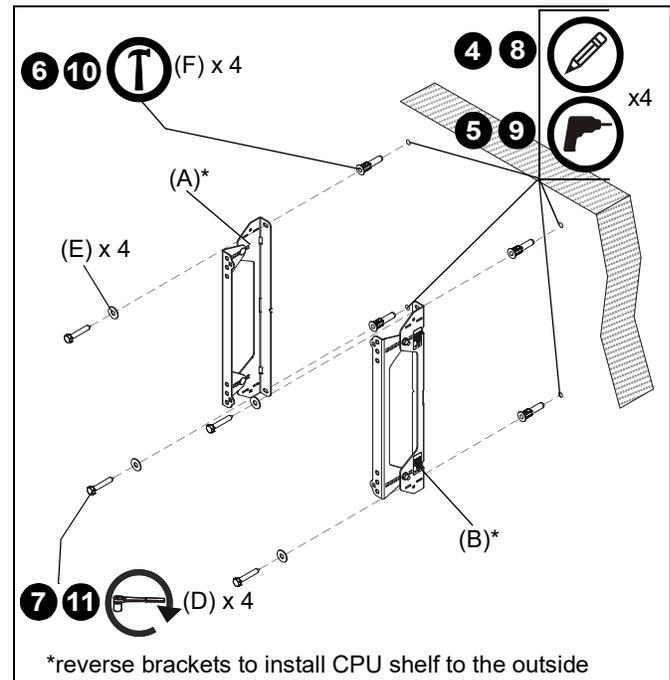

Figure 3
4. Using a level, mark the wall through both upper mounting slots. (See Figure 3)
5. Drill one 3/8" (9.5mm) pilot hole with a depth of 3 1/2" (88.9mm) at each marking. (See Figure 3)
6. Install a UX10 anchor (F) into each pilot hole using a hammer, making sure that the anchor is flush with the wall. (See Figure 3)
NOTE: If desired CPU location is off to the side of the display, reverse brackets (A and B) from how they are shown in Figure 3.
7. Use two 5/16 x 2-1/2" lag bolts (D) and two 5/16" flat washers (E) to attach top of brackets (A and B) to anchors in wall. (See Figure 3)
8. Mark the attachment points for the lower mounting slots. (See Figure 3)
9. Drill one 3/8" (9.5mm) pilot hole with a depth of 3 1/2" (88.9mm) for each mounting hole. (See Figure 3)
10. Install a UX10 anchor (F) into each pilot hole using a hammer.
11. Use two 5/16 x 2-1/2" lag bolts (D) and two 5/16" flat washers (E) to attach the brackets to the wall through the lower mounting holes. (See Figure 3)